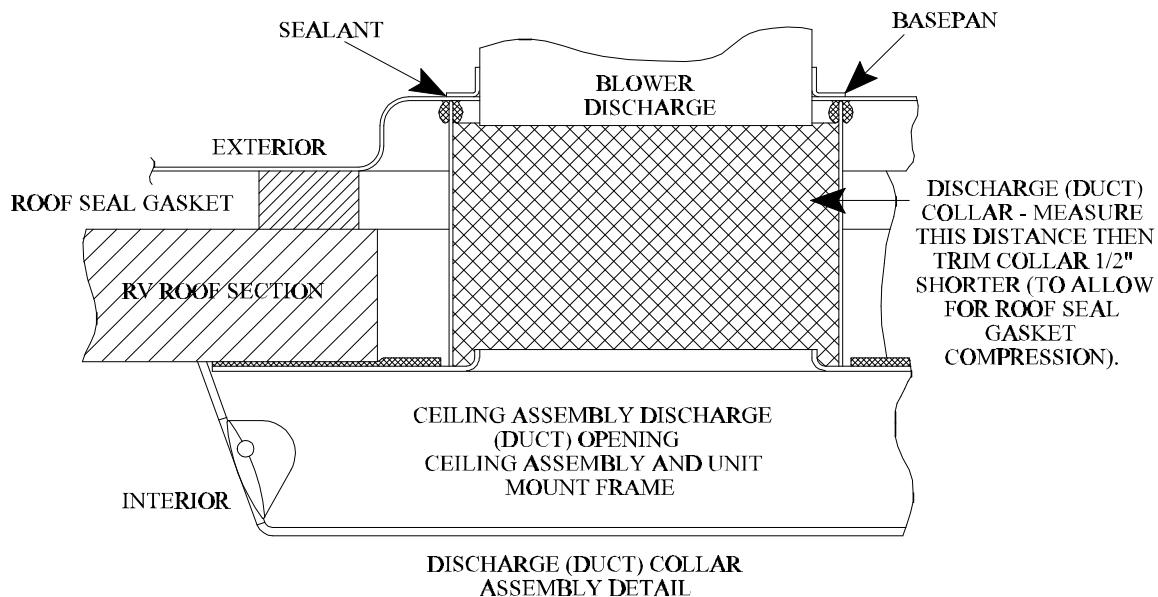

FIGURE 6
- D. On ceiling assemblies equipped with the Elect-A-Heat heater package (heat/cool ceiling assemblies), detach the bottom heating element support plate by loosening the six (6) screws located around the outer edge. The heat element support plate can now be slid over the screw heads. The electrical connection plug will need to be disconnected before the heat element support plate can be removed. **THIS ENTIRE STEP ‘D’ IS NOT REQUIRED ON COOLING ONLY CEILING ASSEMBLIES.**
- E. Before the ceiling assembly can be mounted to the roof top air conditioner, the soft aluminum duct collar must be properly sized (trimmed). Measure the distance between the bottom of the air conditioner basepan and the vehicle interior ceiling line (See Figure 6). Take the aluminum duct collar and trim its height to this measurement less ½".
- F. Square the duct collar (hand form) and place the untrimmed (factory sheared) end of the duct collar over the ceiling assembly discharge opening flange (See Figure 6).